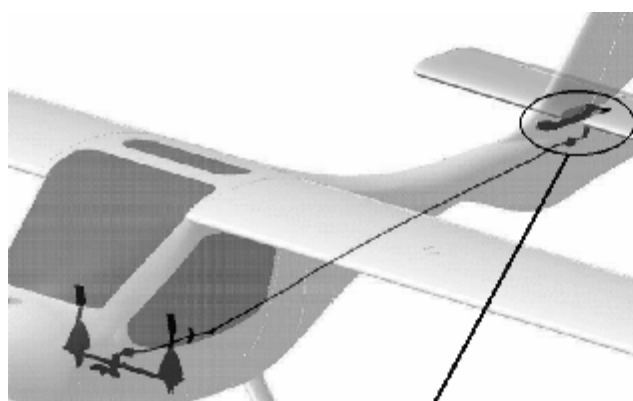
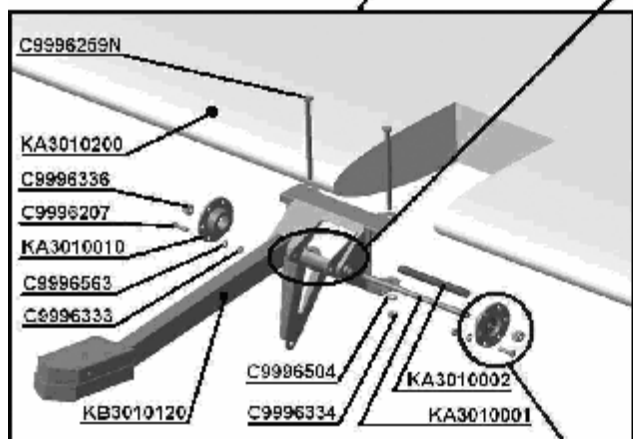

Fig. 1.1
Fig. 1.2
3. Secure the bracket by bolts C9996259N (Bolt DIN 931 M6x110-8.8), Fig. 1.2.
6. Set the bolts C9996259N (Bolt DIN 931 M6x110-8.8) through the matched holes in the bracket KA3010120 and stabilator skins, put washers C9996504 Washer DIN 125 A2B-6.4 mm, and tighten them by the nuts C9996334 (Self-locking nut DIN 985-M6, regular) using two 8x10 wrenches to torque 80 lb-in (9 N\*m), Fig. 1.2. Make sure that the heads of the bolts are on the top of the stabilator, Fig. 1.1.